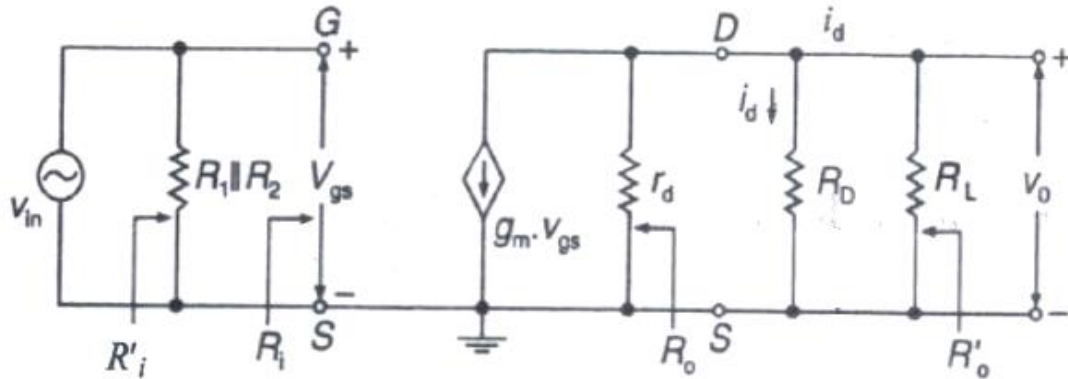

Fig. 5.4 A.C. equivalent circuit of a common source amplifier
- Figure 5.4 shows the a.c. equivalent circuit of a common source amplifier.